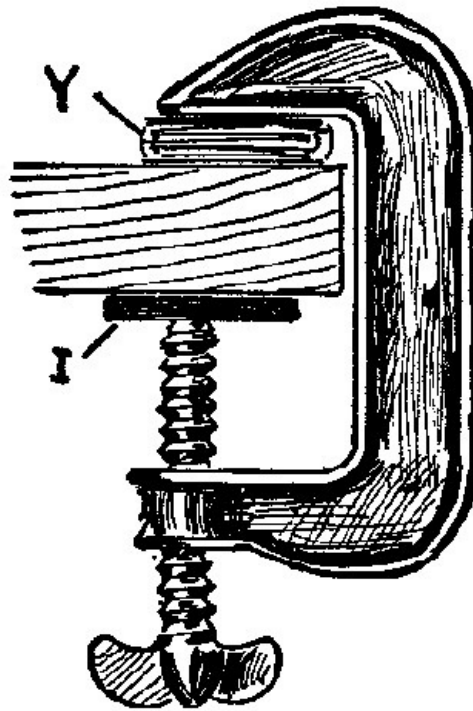

Fig. 52.
**105. To File Thin Metal Strips.** Fig. 52. When sheet-metal is punched by the methods usually employed by boys, a bulge or bur is made on the underside around the hole. If this bur be hammered to flatten it, the hole is distorted and made smaller. It is better to file the bur down, at least part way. It is not convenient to file a piece of thin metal when it is held in a vise. It is better to use either a metal or a wooden clamp, as shown in Fig. 52; then the filing can be quickly and easily done. *Y* is the yoke to be filed. It is well to place a piece of metal, *I*, between the table and the end of the screw.